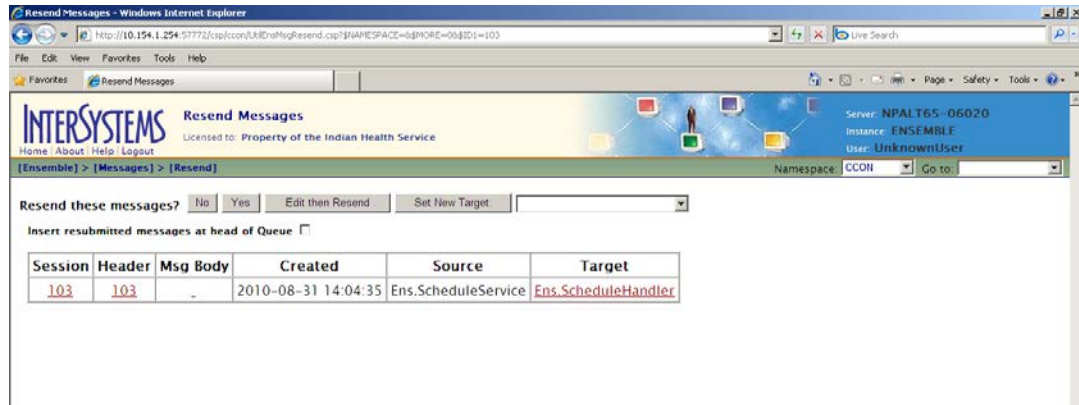

Figure 7-10: Resend Messages page
1. In the message list, click a message to select it, and then click **Resend Messages** to display the **Resend Messages** page, as shown in Figure 7-10.